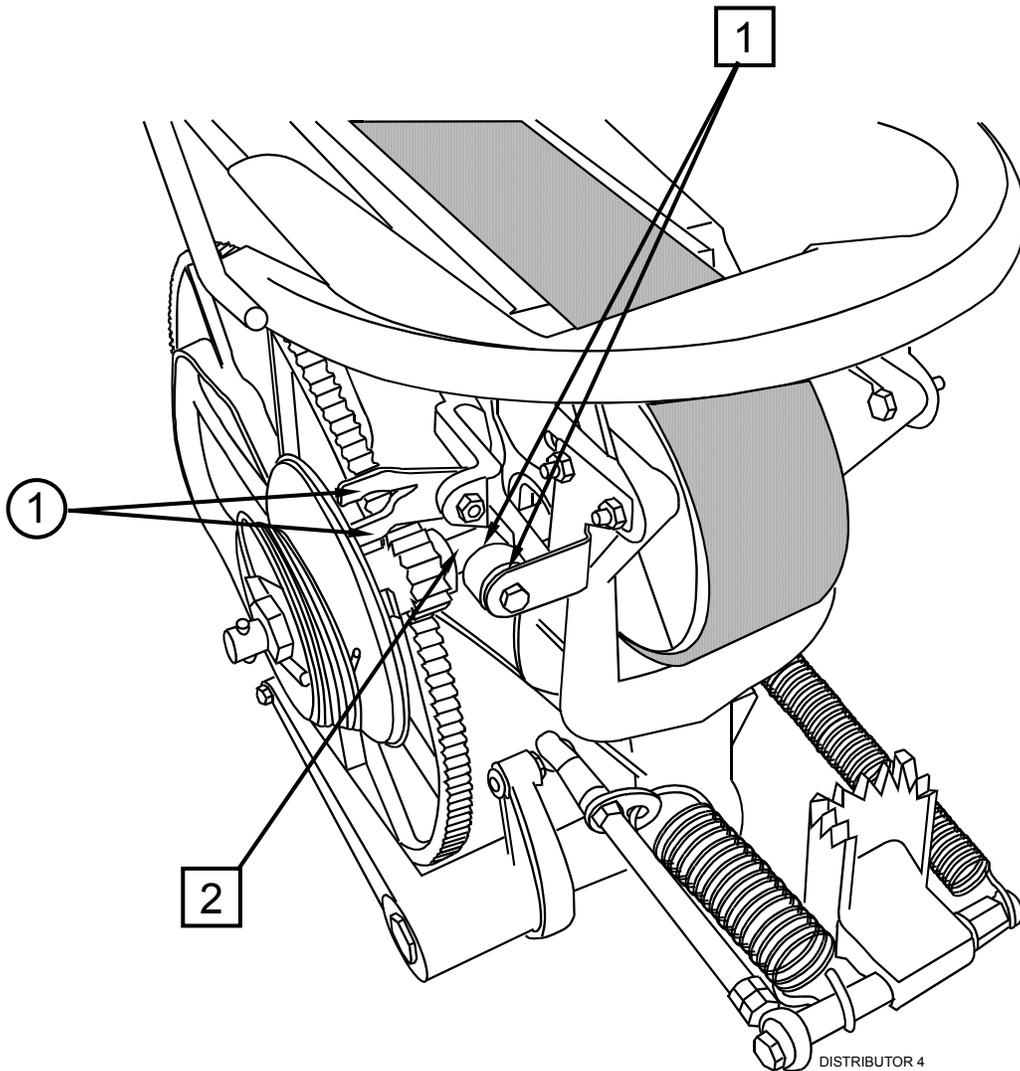

Figure 3-1
3.3 DISTRIBUTOR DRIVE - Figure 3-1